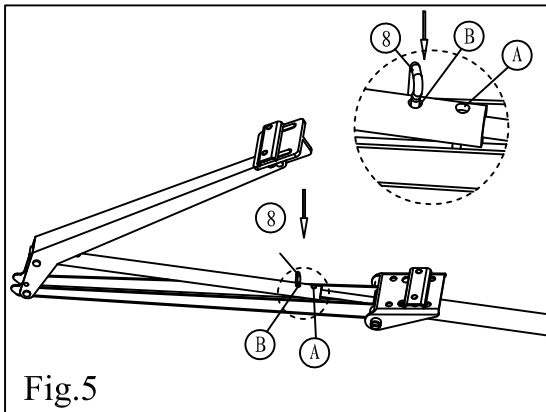

Fig.5
Insert the piston rod (3) into the push rod (6). Fit the hairpin (8) through 2 holes: the hole of the piston rod and the hole of the push rod. See fig.5.